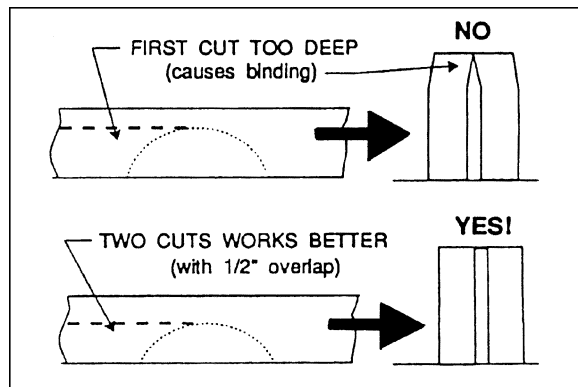

Figure 30
2. In resawing wider boards, adjust the blade height so as to overlap the two cuts by 1/2" as shown in Figure 30. Too deep a first cut can result in binding and possible kickbacks on the second cut. Always use the same side of the board against the fence for both cuts.